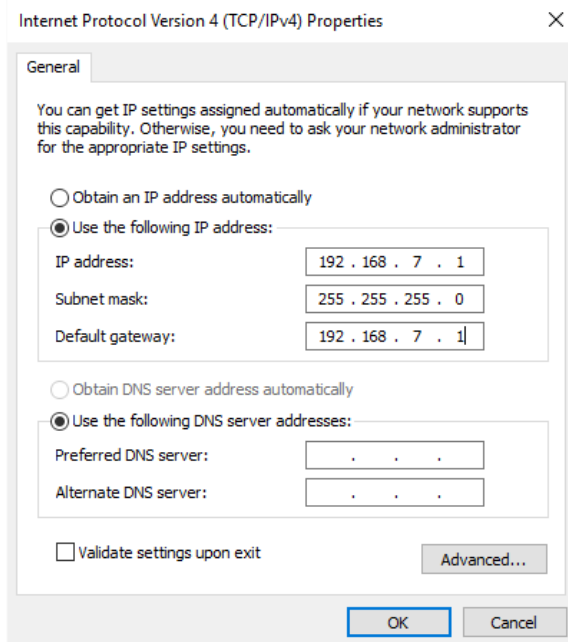

Figure 4-5 - Manual IP v4 settings. The actual values for the IP address and Default gateway are arbitrary but must match.
- Using the same (arbitrary) numbers as in the previous section for Macintosh settings, enter the numbers you see in Figure 4-5. The **subnet mask** must be set to 255.255.255.0. The **IP address** and **Default Gateway** are arbitrary *but must be equal to each other*.